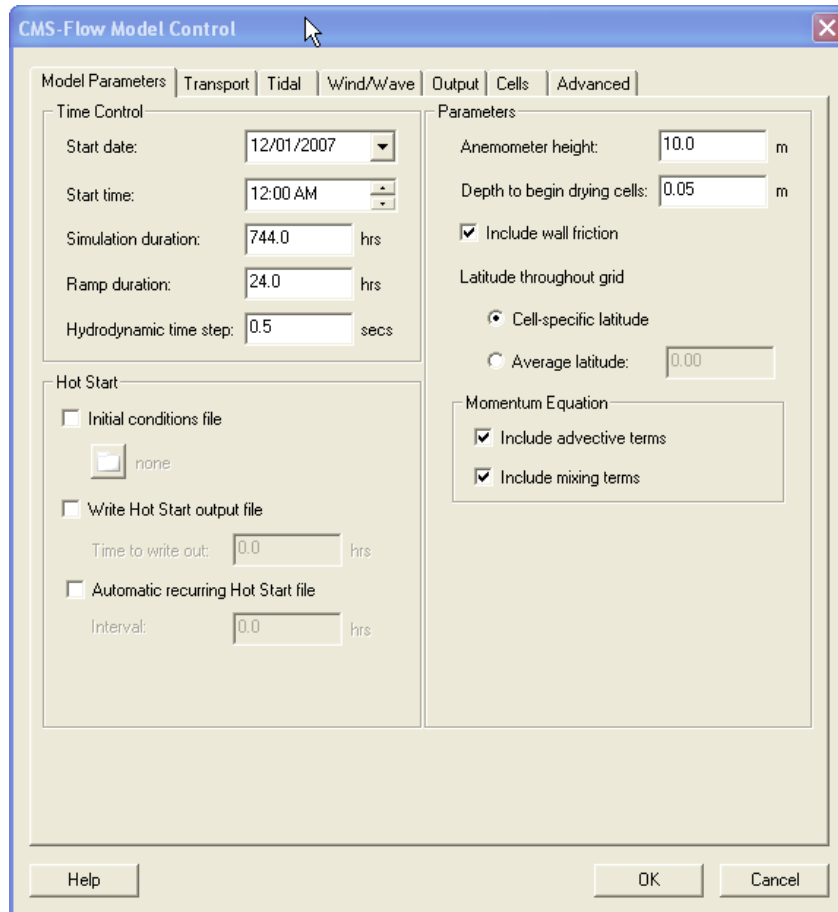

Figure 20. CMS-Flow Model Control.
3. Change the value of the "S:" edit box (shown in Figure 20) and press "Enter." Note: only the first 9 significant digits are used. Disregard the remaining digits.